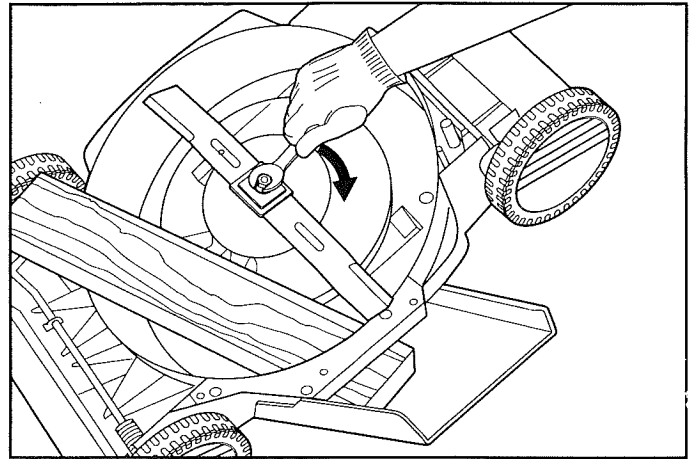

FIGURE 18
- When replacing sharpened or new blade on shoulder of fan, make sure cutting edges of the blade are closest to ground. Place lower insulator washer over shoulder of the fan. Now place blade spacer and the blade nut on the shaft. **NOTE:** Align flats of shaft with flats in insulator washer and lower blade spacer. Position wood to keep shaft from turning (Figure 18) and then securely tighten blade nut.